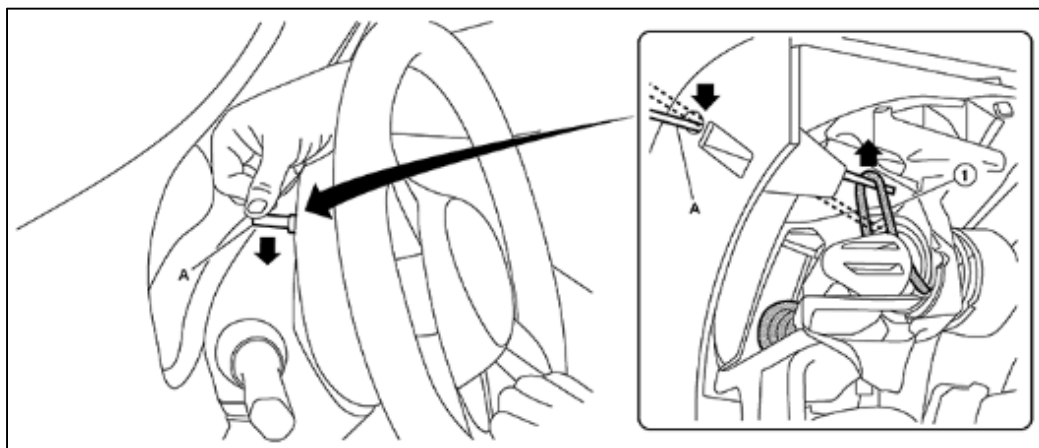

Figure 5
6. Lift the spring (1) using the Airbag Release Tool (A), to disengage the spring, as shown in Figure 5.